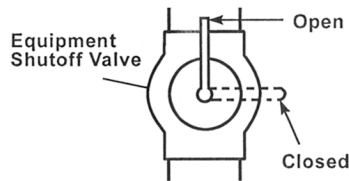

Figure 8 -Equipment Shutoff Valve
1. Open equipment shutoff valve (see Figure 8).